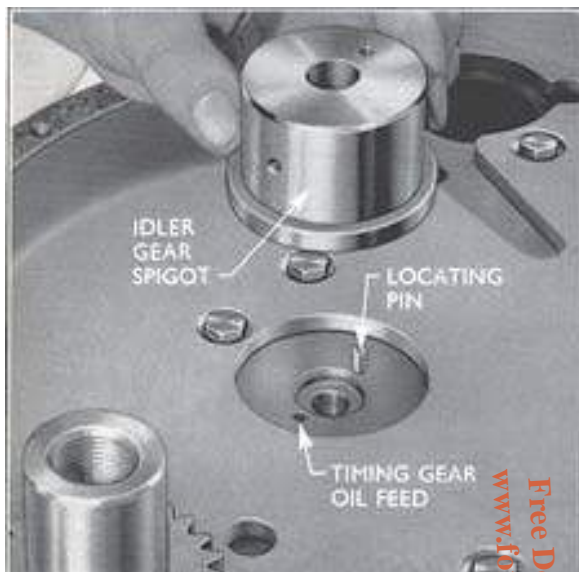

Fig. 10
1. Replace the idler gear spigot so that the small locating peg is entered into the through drilling in the spigot (see Fig. 10).